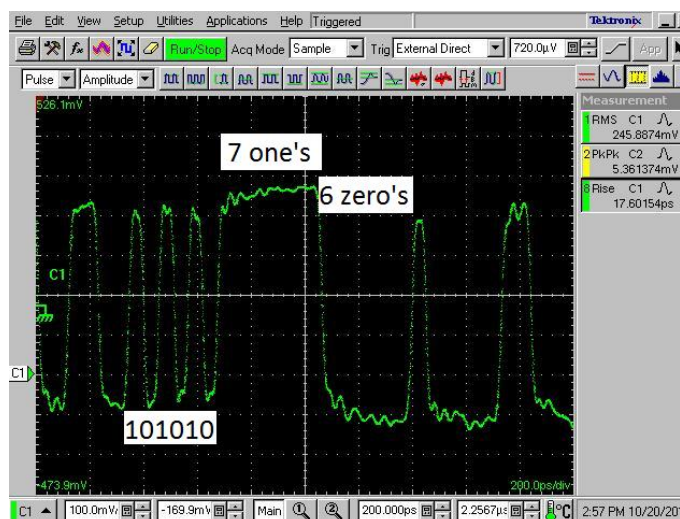

Figure 2. Correct PRBS7 pattern
- Adjust the Phase Adjust potentiometer in order to get the correct PRBS7 pattern as shown in **Figure 2**.